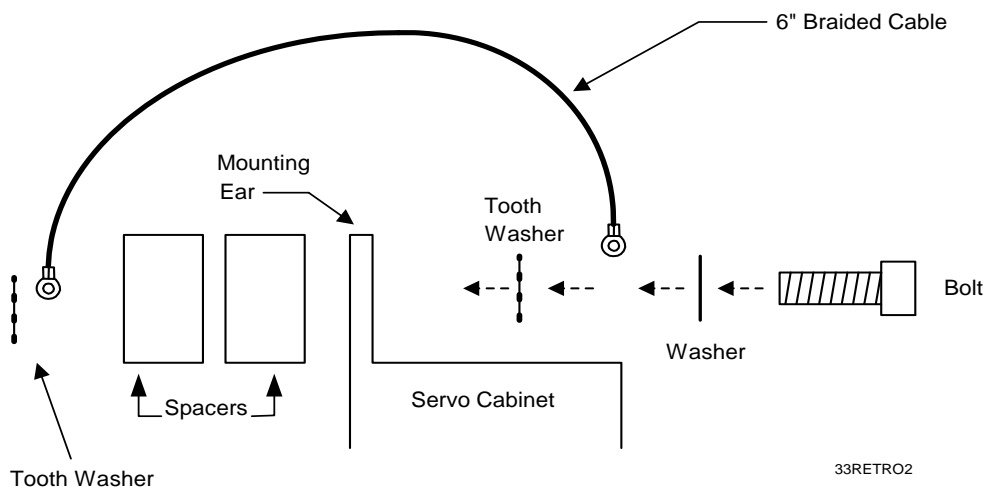
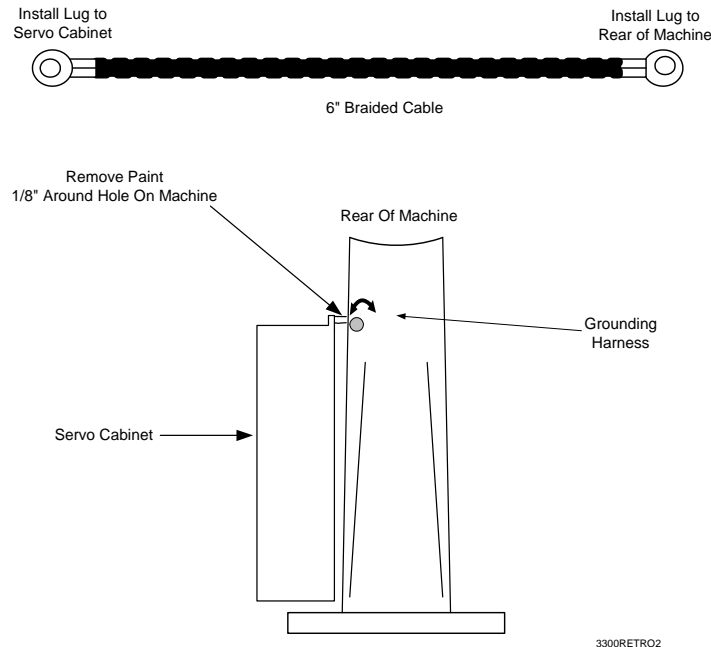

Figure 3-26, Installing the Grounding Harness on the Enclosure
Figure 3-27, Installing the Grounding Harness on the Rear of the Machine
10. Refer to **Figure 2-1, Central Grounding Buss Bar (Servo Enclosure)**, **Figure 3-26**, and **Figure 3-27**. For an optimal ground connection, remove a 1/8-inch ring of paint on the machine around the right (rear) hole just tapped.